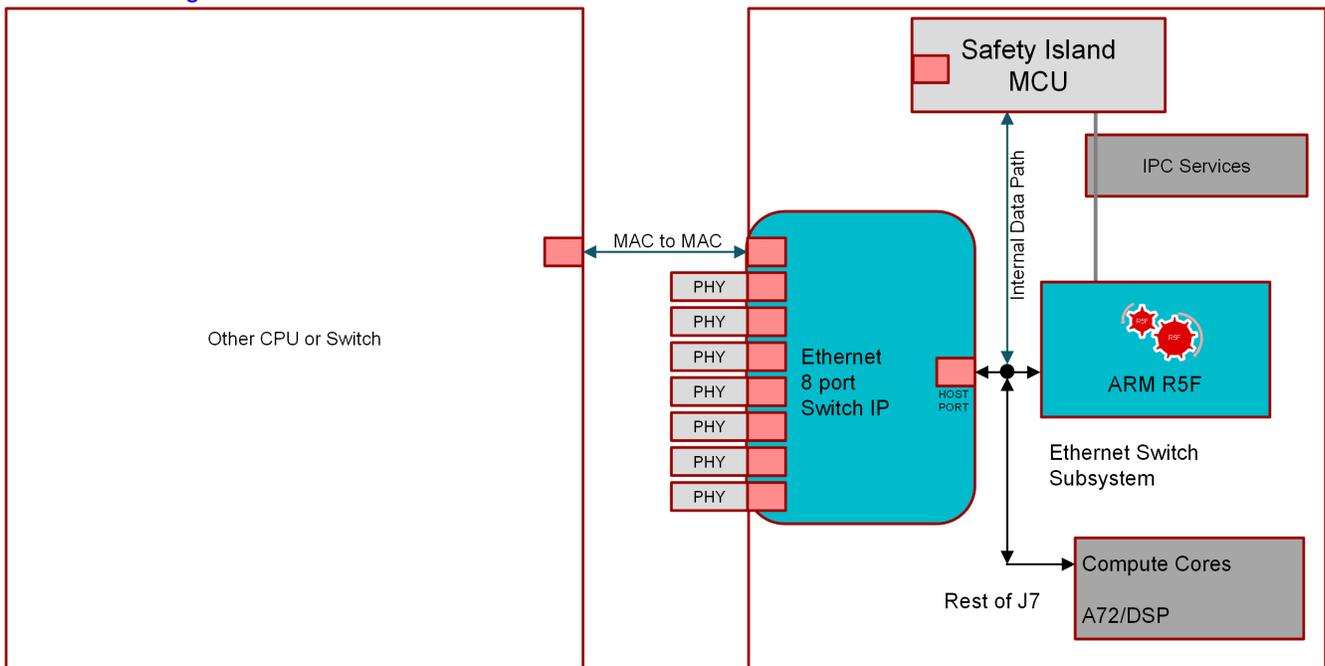

Figure 2-6. External Soc Connect to TDA4VM
- MAC2MAC can be used to connect external switches or the MAC's on other SoC's. It serves two goals, first, it increases the port count, second, it can be used to inter-connect SoC's. The system block diagram is shown in Figure 2-6.